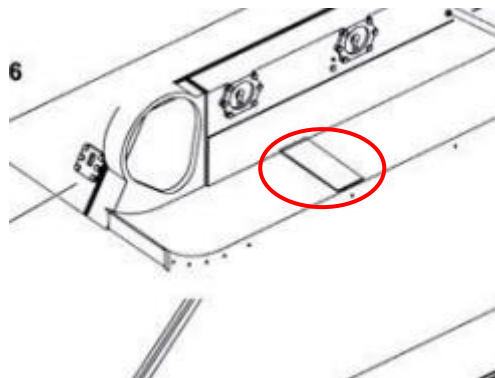

Figure: 1
2. Step 1 of the kit's instructions. Remove the raised protrusion on each side of the sponson, as in the Figure 1.
2. Step 1 of the kit's instructions. No not add part L16. Remove the raised protrusion on each side of the sponson, as in the Figure 1.